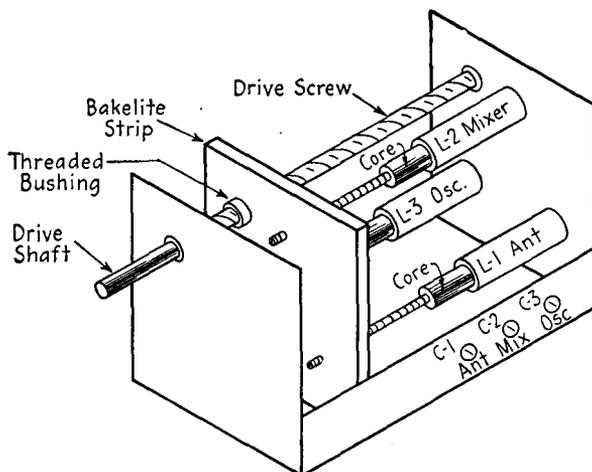

FIG. 15-15.—A permeability tuner of the screw-drive type.
Screw-drive Permeability Tuners.—Another type of permeability tuner uses a screw for driving the ganged tuning slugs. Figure 15-15 shows a tuner of this type. The proportions have been altered to permit viewing the operation of the unit.
5. Tune the receiver to a quiet point near the high-frequency end of the tuning range, adjust the signal generator to feed the same frequency as that shown on the receiver dial scale, and align the oscillator high-frequency trimmer for maximum output. This trimmer is labeled C-3 in Figs. 15-15, 15-16, and 15-17.